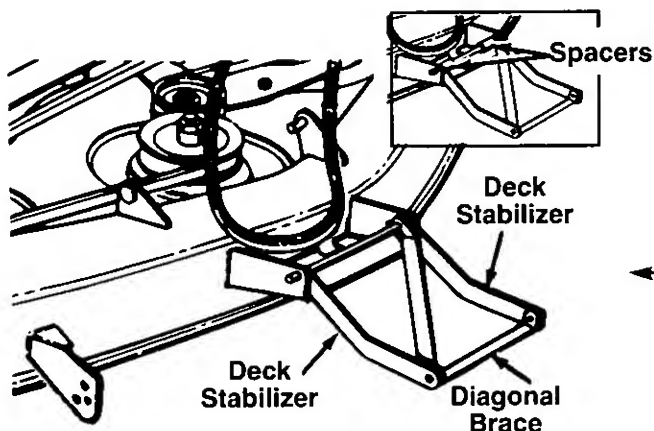

FIGURE 4.
2. The two deck stabilizers and the diagonal brace which are attached to the front of the deck are folded back over the deck for shipping purposes. Unfold them at this time. See figure 4.
NOTE: If the hardware for attaching the deck is assembled to your deck, remove the hairpin clips and flat washers from each deck bracket. Remove the spacers from the rod which is through the deck stabilizer by removing the hairpin clips and sliding out the rod. Replace the rod and hairpin clips. See figure 4, inset.